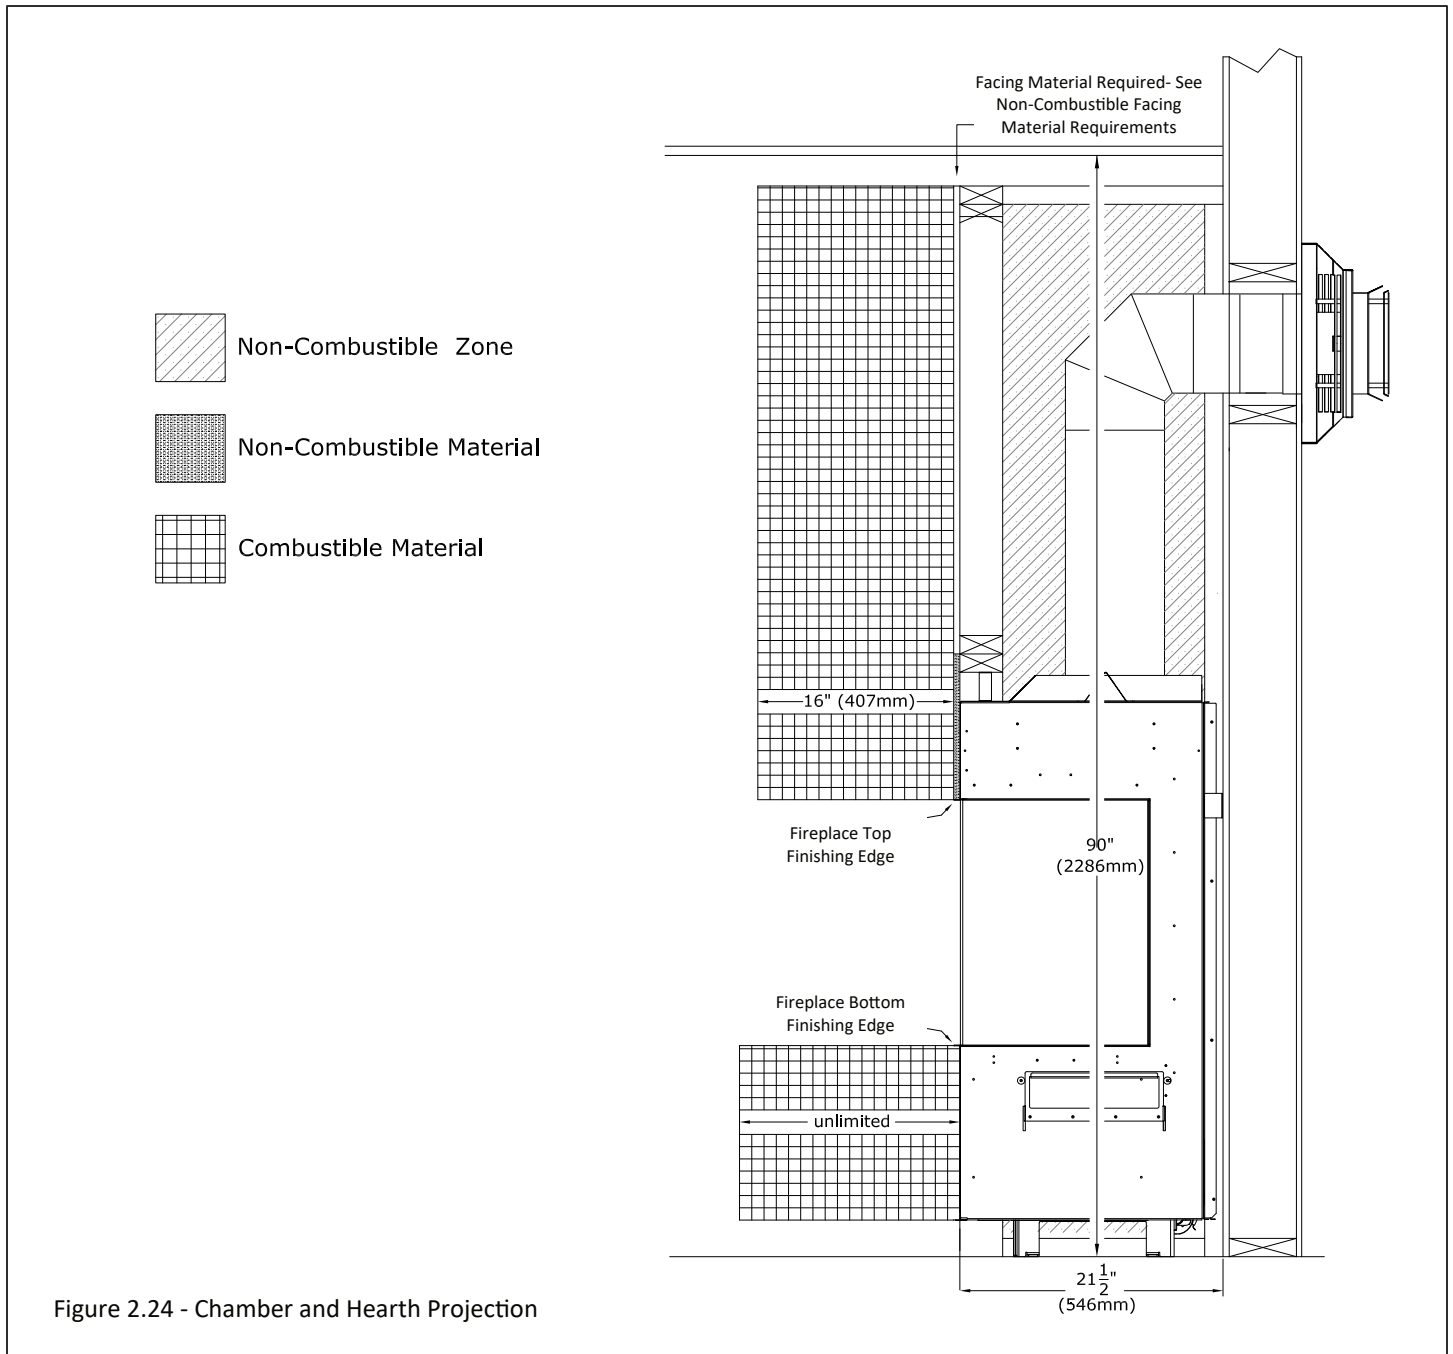

Figure 2.24 - Chamber and Hearth Projection
- **Combustible Chamber Projections:** A maximum of a 16" (406mm) chamber projection can be installed flush at the side and top finishing edge of the fireplace. See Figure 2.24.
Figure 2.24 shows a 16" (406mm) combustible front chamber projection with a vented cavity. The air intake and heat release openings of the fireplace chamber must maintain their opening dimensions for the option you have chosen throughout the entire fireplace chamber and projection.